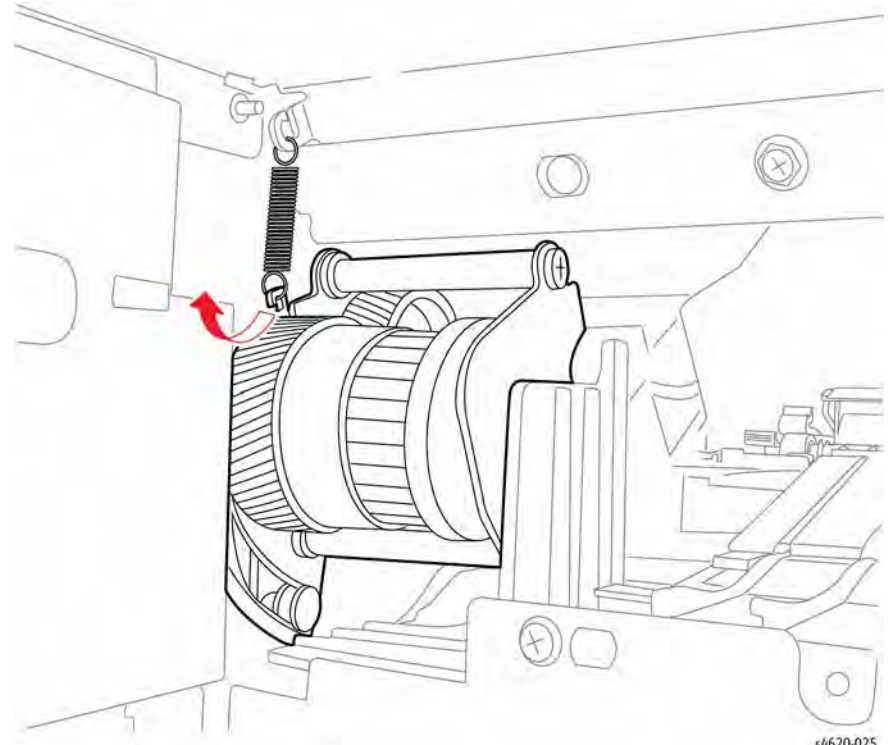

Figure 5 Remove the Fuser Drive spring
13. Remove the Fuser Drive spring, Figure 5.